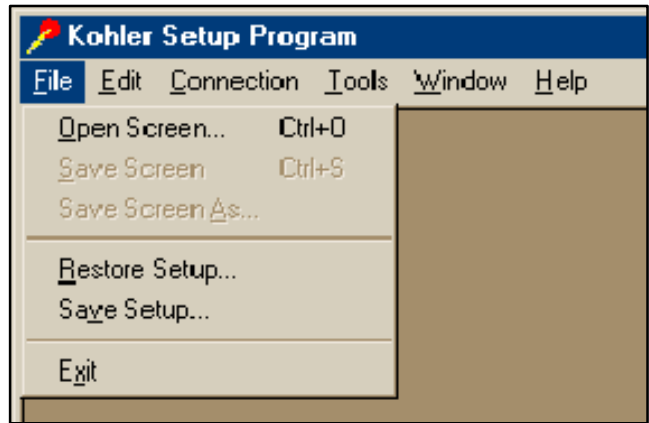

Figure 2-11 File Menu
See Figure 2-11.
1. Select *File>Save Screen As* from the menu bar as shown in Figure 2-11.
2. Select *File>Save Setup* from the menu bar as shown in Figure 2-11.